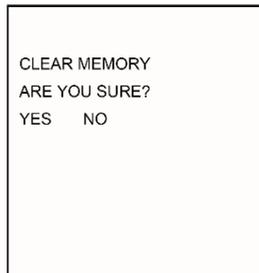

Figure 8
- 2) Move the cursor to SAVE then press the **+/ \leftarrow** button to enter the following menu FIGURE 8;